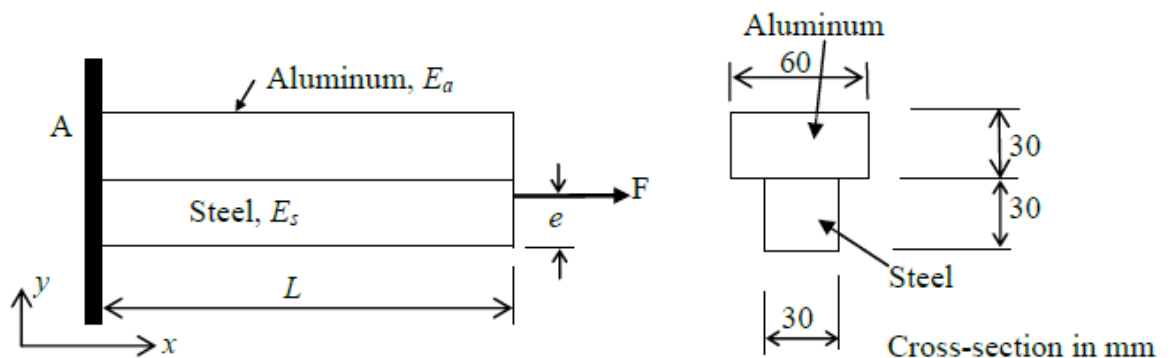

Figure 4
a) An axially loaded composite bar consists of steel and aluminum (two materials are bonded together) as shown in **Figure 4**. The bar is fixed at end A. The force $F=120$ kN is to be positioned so that the bar is to elongate uniformly. The elastic moduli of steel and aluminum are $E_s=210\times 10^3$ MPa and $E_a=70\times 10^3$ MPa, respectively.